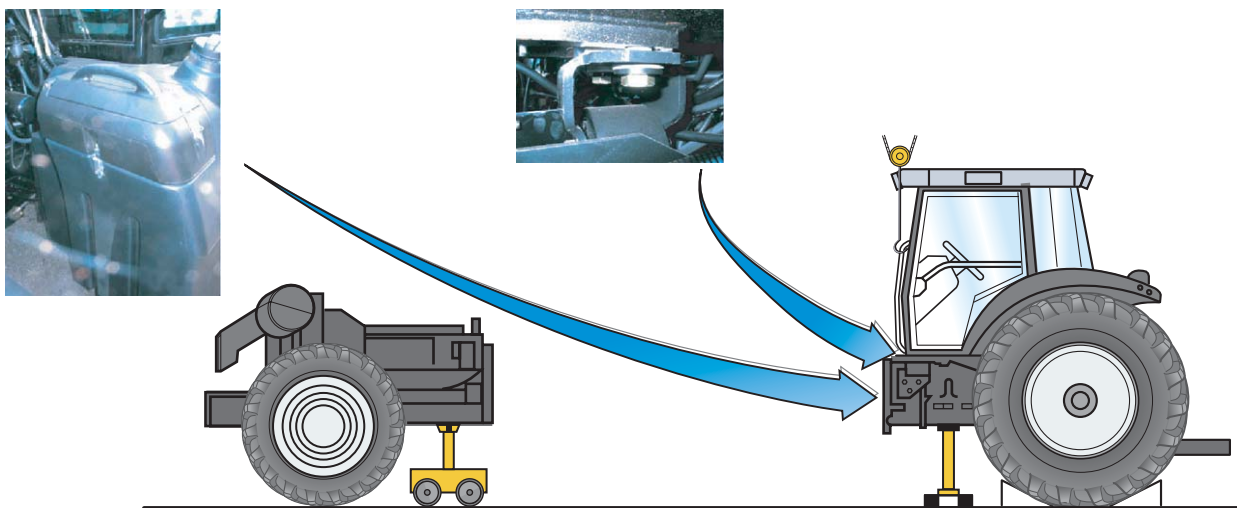

Fig. 11
25. Install (Fig. 11):
28. Split the assemblies with the help of an operator (Fig. 11). When disassembling, check that connections (hoses, pipes and harnesses) are all disconnected.